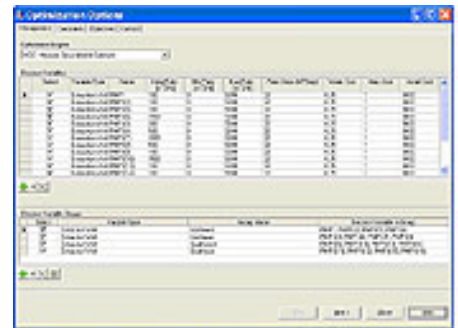

Figure 1
- Picking decision variables (operational parameters) to be optimized. You can select some, or all, wells defined in your flow model to be decision variables. You can also define specific groups for the decision variables. (See *Figure 1*).